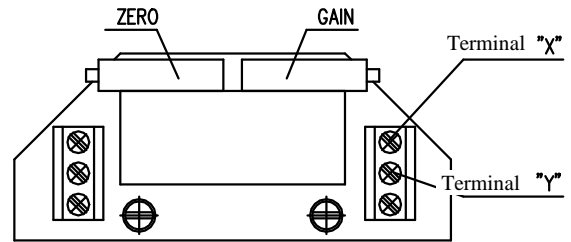

Fig. 11
4.6.2 EPV – 3-wire version (Fig. 11,11a)
- Adjust the resistive transmitter according to the previous chapter. The resistance is to be metered on the terminals X-Y (Fig. 11,11a). The used transmitter resistance is 2000 Ω or 100 Ω .